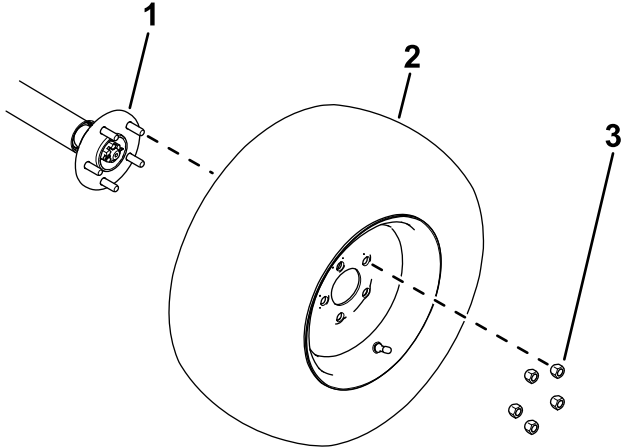

Figure 8
1. Use the previously-removed lug nuts to secure the tires to the wheel hubs (Figure 8).